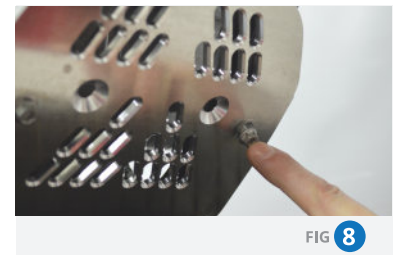

FIG 8
- 1 Use the provided 6 x 20mm hex head bolts to mount skid plate to frame inserts. [Fig. 8]